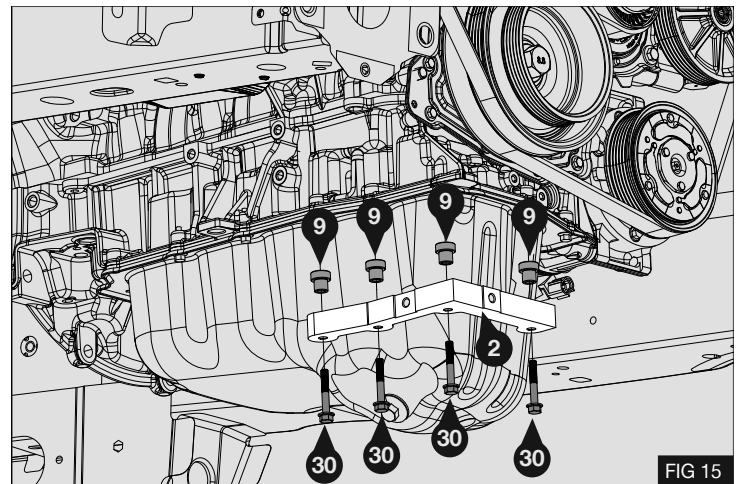

FIG 15
- Insert the spacers (9) into the oil pan mounting (2). Install the oil pan mounting assembly (2) using 4 x M6 x 40 bolts (30). Do not fully tighten. - Fig 15